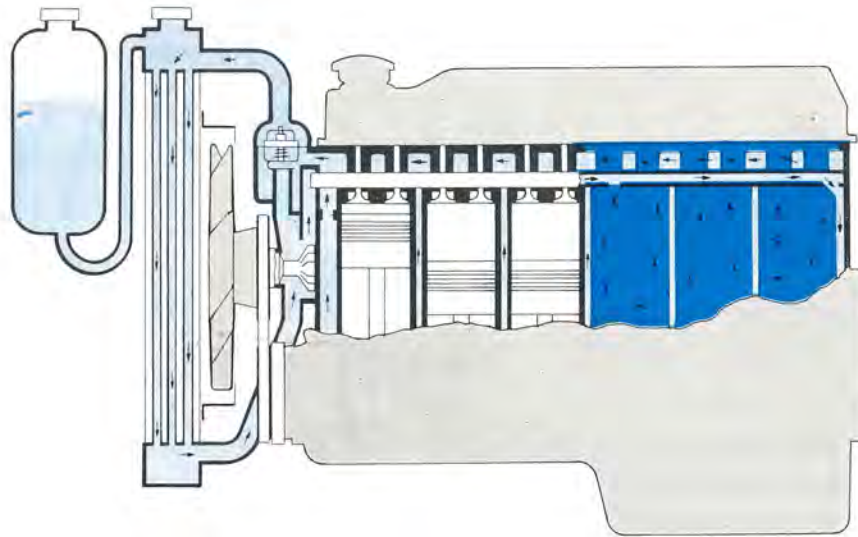
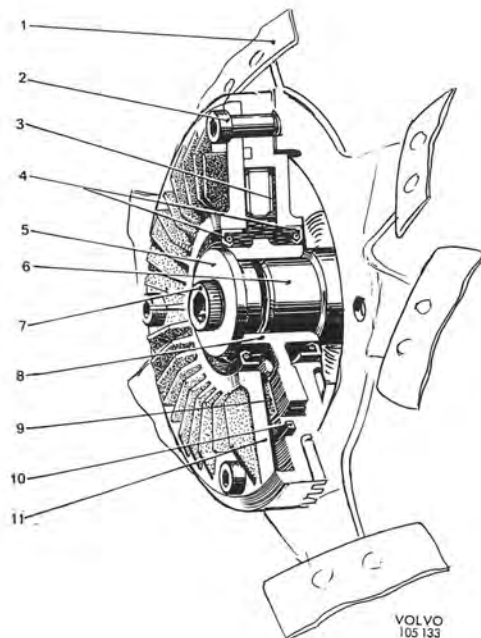

Fig. 2-149. Sealed cooling system
Fig. 2-150. Fan coupling
The engine is water-cooled and the cooling system is of the sealed type, see Fig. 2-149. A fan cover mounted on the radiator improves the cooling function of the fan. The fan is speed-regulated, a so-called slip-coupling type (see Fig. 2-150), the function of which is to ensure that the fan blades do not exceed a certain speed even if the engine speed is exceeded. See Fig. 2-158. The six fan blades are mounted asymmetrically to keep down the noise level. The fan coupling consists of the casing (11, Fig. 2-150) in which the fan blades (1) are secured with the bolt (2). The casing (11) has two halves which, however, cannot be separated for repairs, the fan coupling then being replaced complete. The hub (8) has a light fit on the water pump flange (6) and is locked by means of the center bolt (7). The hub is provided with a slip disc of friction material (9) surrounded by oil. During idling and at low speeds, the slipping is insignificant, so that the fan provides an air current for satisfactory cooling. When the ingoing speed (that of the water pump) exceeds about 58 r/s (3500 r/m), the slipping